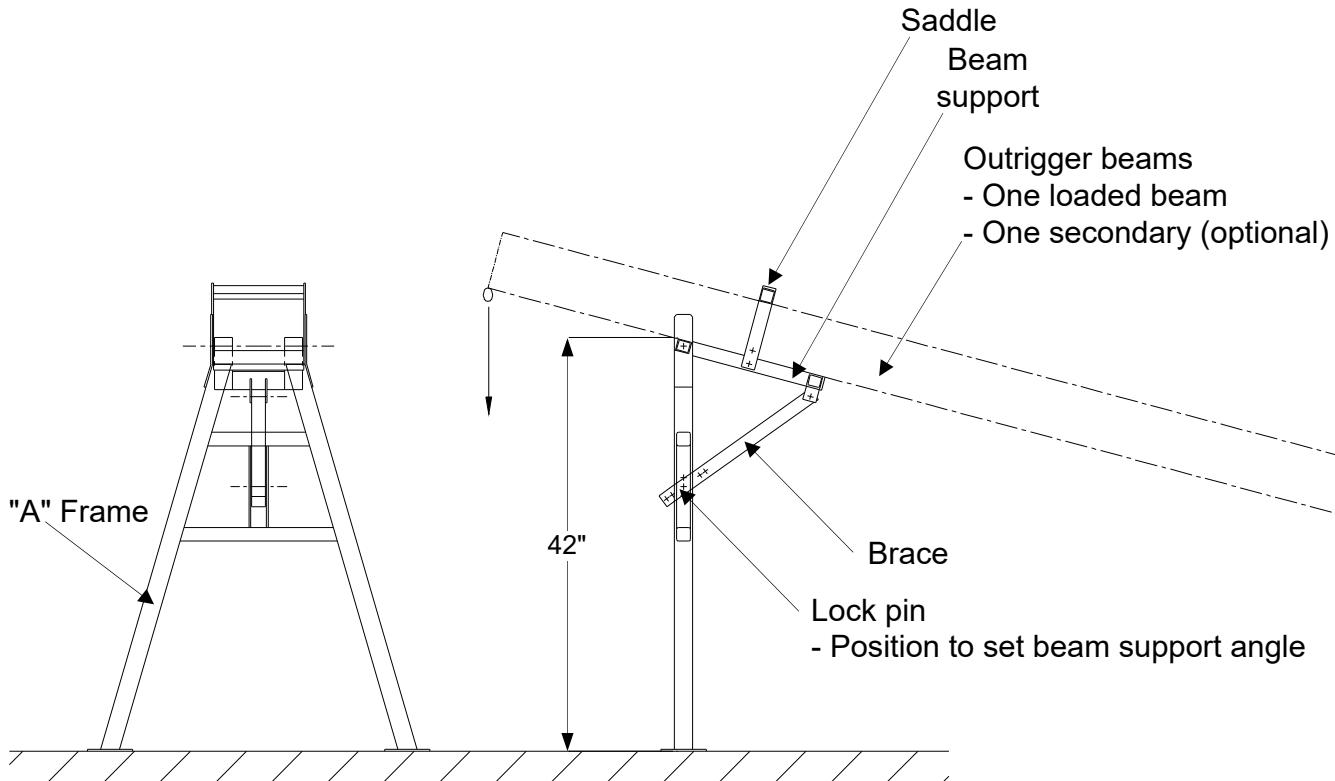

Figure 10. Beam Stand Installation
1. Raise the "A" frame to the vertical position and remove the retaining saddle (see Figure 5, Figure 10).